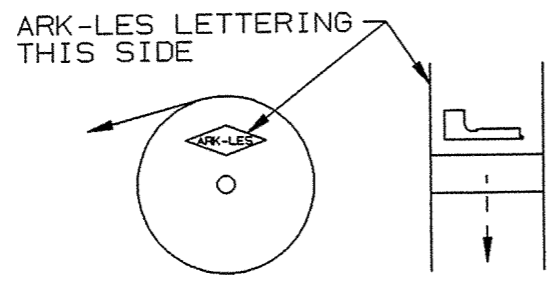

FIGURE 2
7. FOR REVERSE REELING ADD SUFFIX "R" TO PART NUMBER. (i.e. 3500H 109A-2R) SEE FIGURE 2.